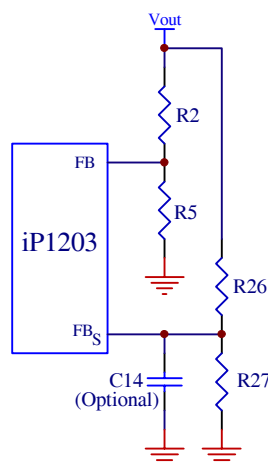

Fig. 14: Typical Scheme for Output Voltage Setting
The output of the iP1203 will shut down if it experiences a voltage in the range of 115% of V_{OUT} . The overvoltage sense pin FB_s is connected to the output through voltage dividers, R26 and R27 (Fig. 14), and the trip setpoint is programmed according to equation (1). A separate overvoltage sense pin FB_s is provided to protect the power supply output if for some reason the main feedback loop is lost (for instance, loss of feedback resistors). An optional 100pF capacitor (C14) is used for delay and filtering.
When selecting output capacitors, it is important to consider the overshoot performance of the power supply. If the amount of capacitance is not adequate, then, when unloading the output, the magnitude of the overshoot due to stored inductor energy, and depending on the speed of the response of the control loop, can exceed the overvoltage trip threshold of the iP1203PbF and can cause undesirable shutdown of the output. The magnitude of the overshoot should be kept below 1.125V_{OUT}. To prevent the overshoot from tripping the output a delay can be added by installing capacitor C14 as shown in Fig.14.